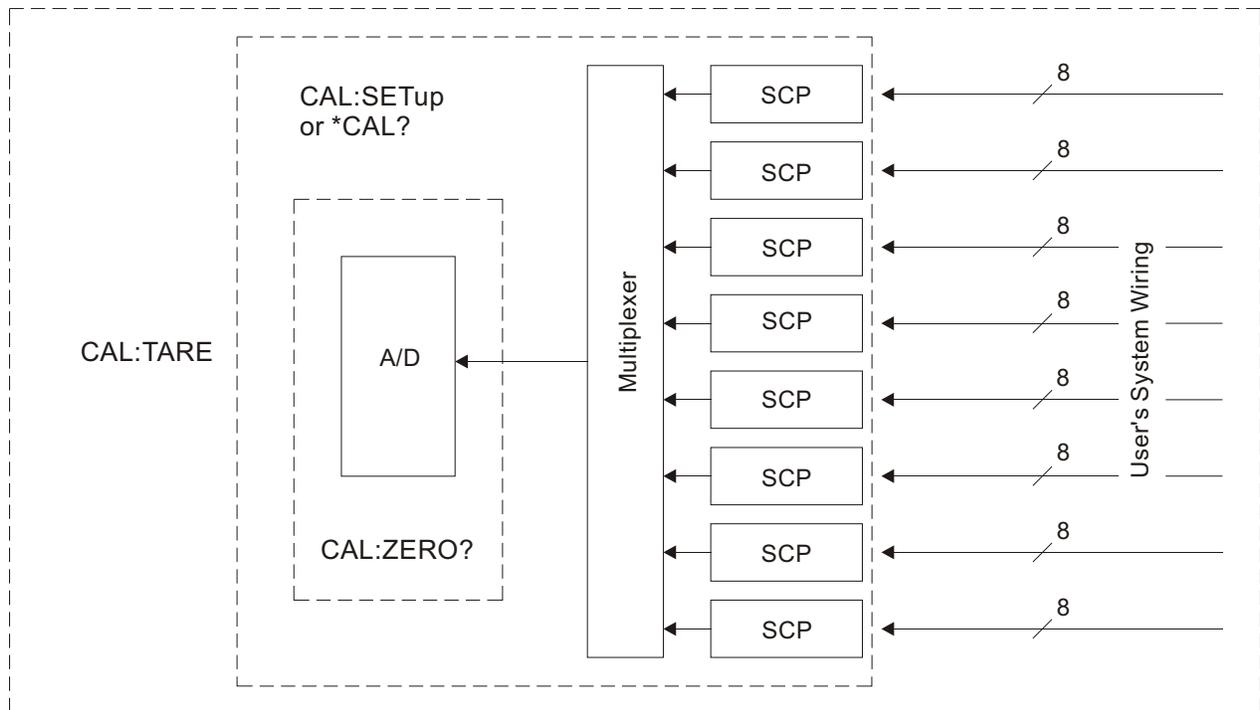

Figure 5-2: Levels of Working Calibration
2. “**Working Calibration**”, of which there are three levels (see Figure 5-2):